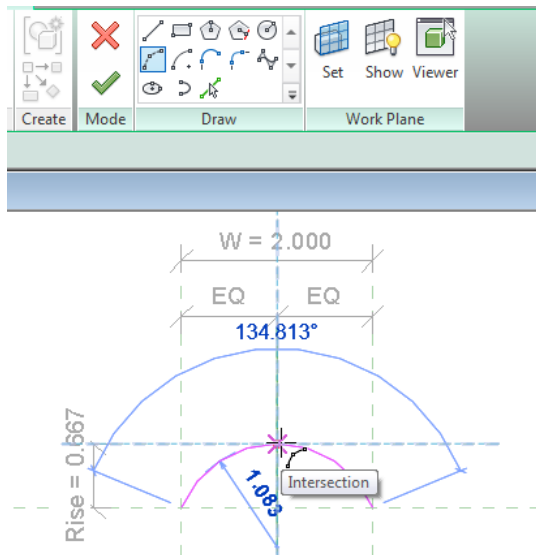

Figure 27—Create the path of the sweep with a start-end-radius arc
11. Snap to the intersection of the Top and Center (Left/Right) reference planes for the radius (see Figure 27).